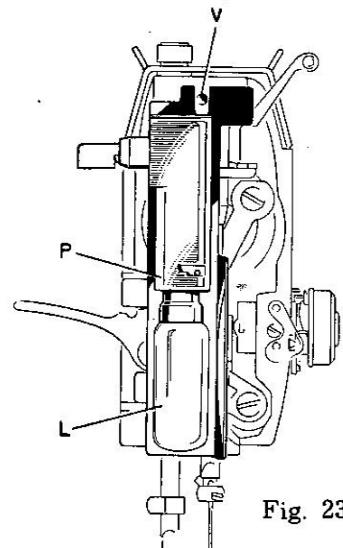

Fig. 23
- Push bulb « L » (Fig. 23) upwards, turn it toward the left and pull it downwards;